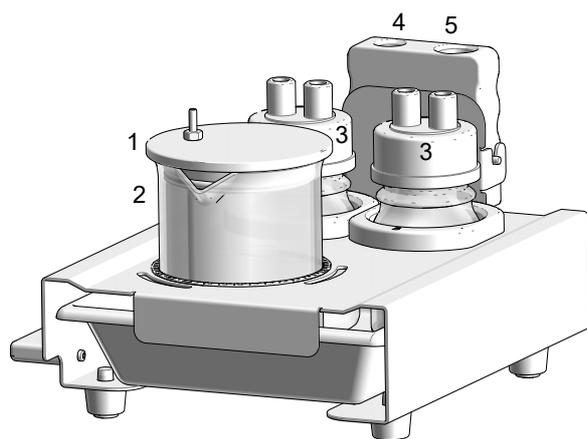

Fig. 17: SurPASS 3 accessory kit for liquid handling
Mount the SurPASS 3 accessory kit for liquid handling as shown in Fig. 17. Place the device on the right side of the SurPASS 3 instrument close to the titration unit. Make sure the hoses of the titration unit are mounted as described in chapter 3.7.
- If not in use store the pH electrode in 3 mol/l KCl solution and place it in the storage container of the accessory kit for liquid handling (pos. 5 in Fig. 17).